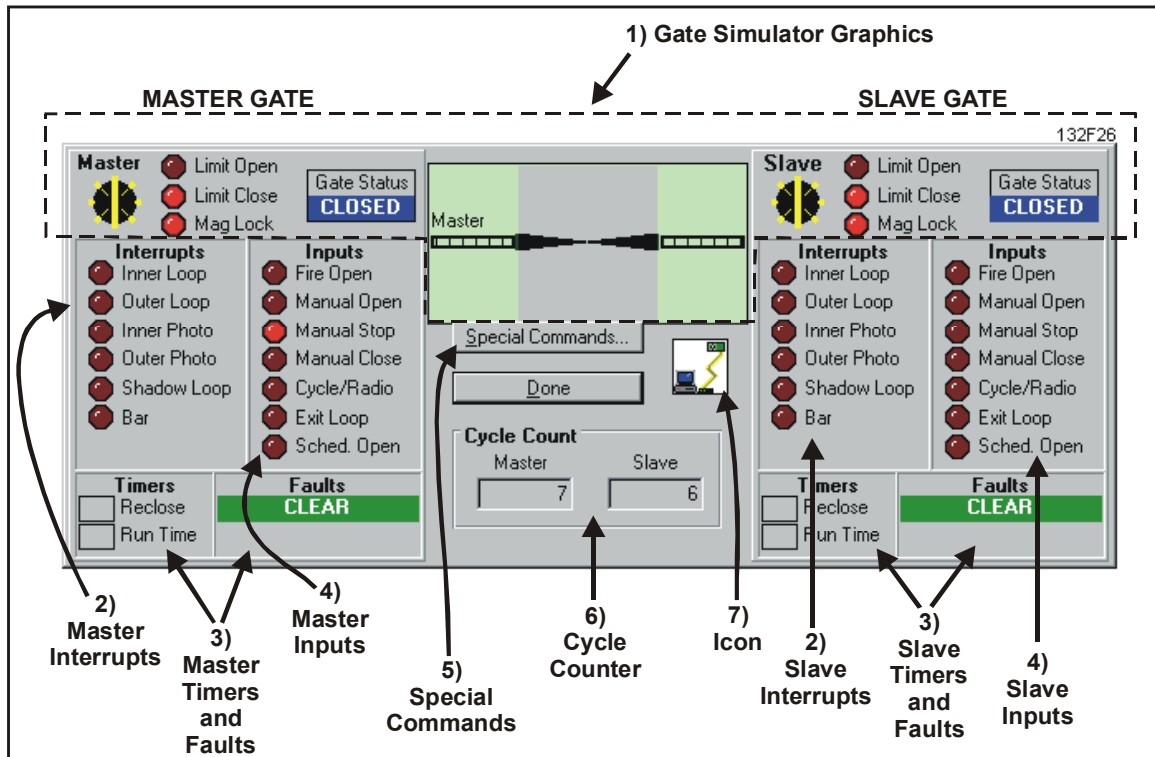

Figure 22: Control Panel Screen (X3)
- ◆ **X3 Board:** The Faults box indicates the current, active gate fault (overcurrent, overload, interrupt bar, etc.). If no fault currently occurs, the box will read "Clear" (see Figure 22). For a description of the different types of faults, see page 36.